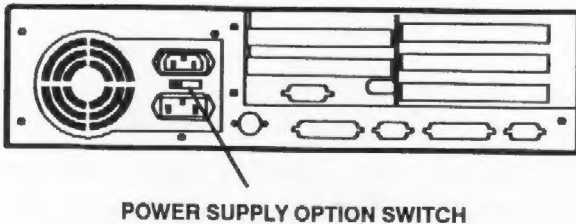

Figure 1. Power Connector and Power Supply Option Switch
- ☐ Check the power supply option switch on the back panel. Refer to Figure 1 for the location of this switch. Make sure it is set for the correct voltage, 115V in the U.S. and Canada, 230V in the U.K. and Europe.